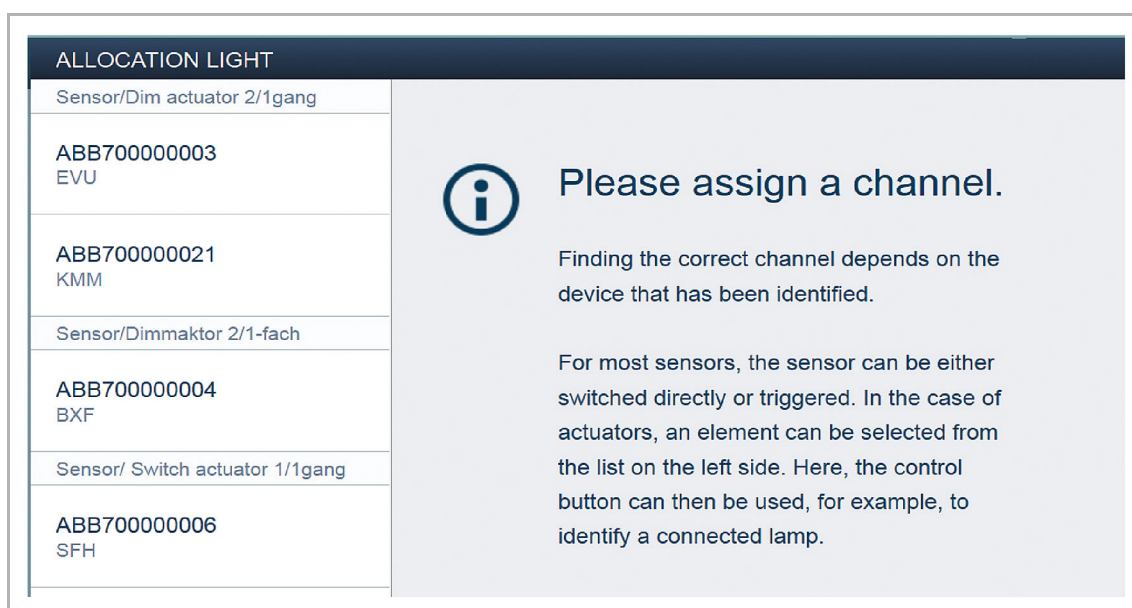

Fig. 23: Pop-up window with the suitable devices
- A pop-up window opens which lists all the devices that are connected to the bus and suitable for the selected application (e.g. all blind actuators, if the blind application has been selected, see fig. "Fig. 23:" on page 42).